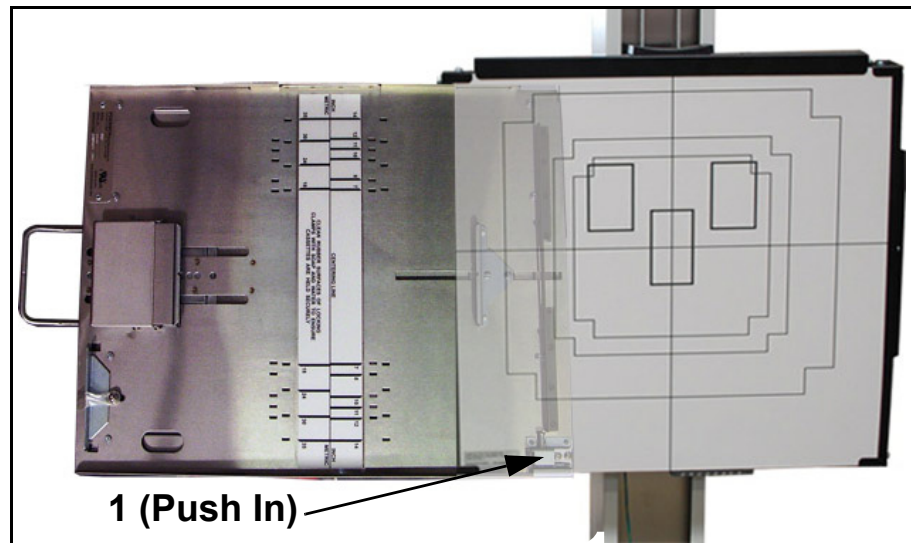

Figure 5-1. Cassette Tray Removal
- 2 While firmly pressing the cassette tray release latch (1 in Figure 5-1), pull the cassette tray completely out of the bucky.